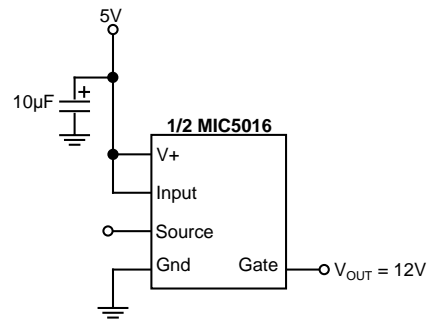

Figure 11. DC - DC Converter
**Simple DC-DC Converter** (Figure 11) The simplest application for the MIC5016 is as a basic one-chip DC-DC converter. As the output (Gate) pin has a relatively high impedance, the output voltage shown will vary significantly with applied load.